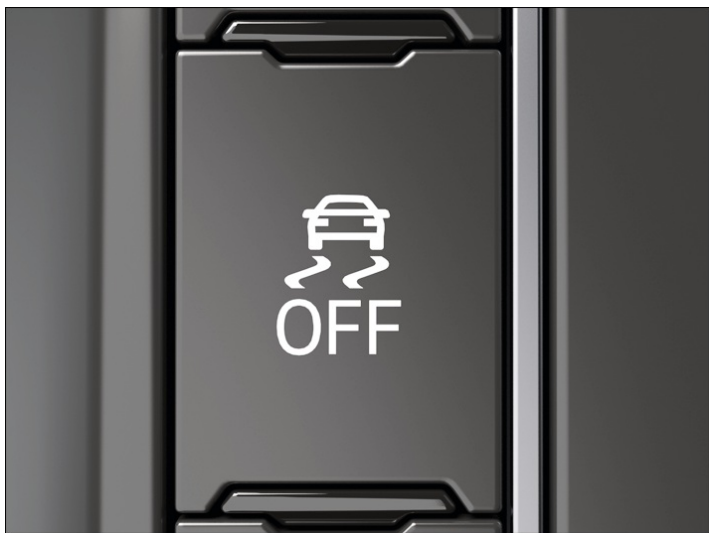

Fig. 1 In the centre console: button for switching ESC Sport on and off manually (depending on equipment).
1. Press the  → Fig. 1 button for around 1 second.